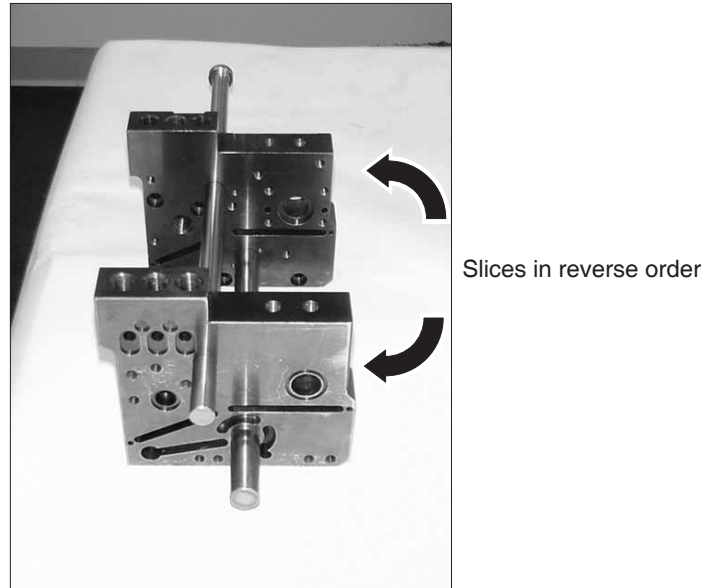

Figure 7-58 Aligning the end slices
1. See Figure 7-58. Begin assembly with the two end slices (in reverse placement) supported by the alignment pins.